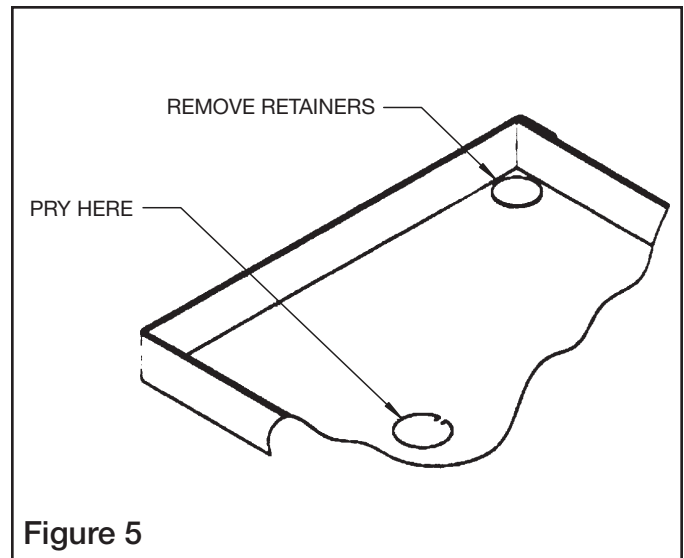

Figure 5
8. Remove concrete from access frame. Break off plastic retainers (2) and use knockout to remove plate. See figure 5.